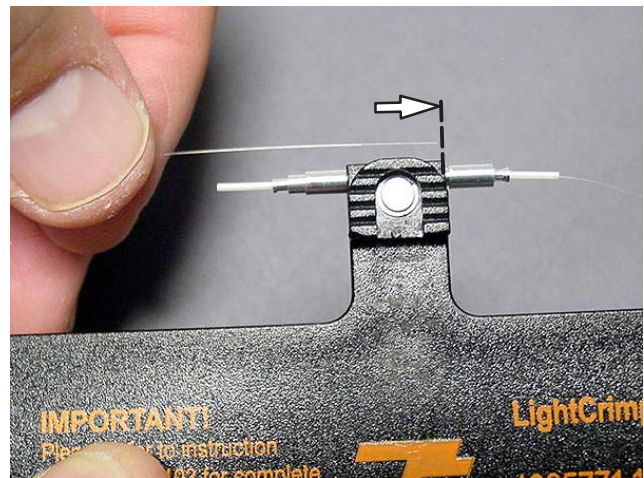

Figure 45
8. Open the clamp on side B and align the tip of the fiber with the edge of the holder as shown in Figure 45.